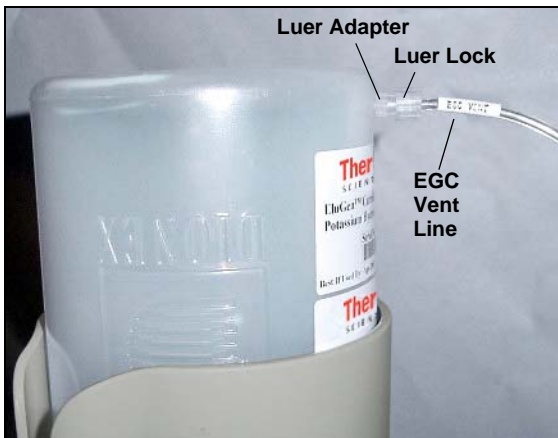

Figure 5-46. Dionex EluGen Cartridge Vent Line and Luer Fitting
4. Remove the EGC **VENT** line (see Figure 5-46) from the Dionex EluGen cartridge by unscrewing the luer lock from the luer adapter.